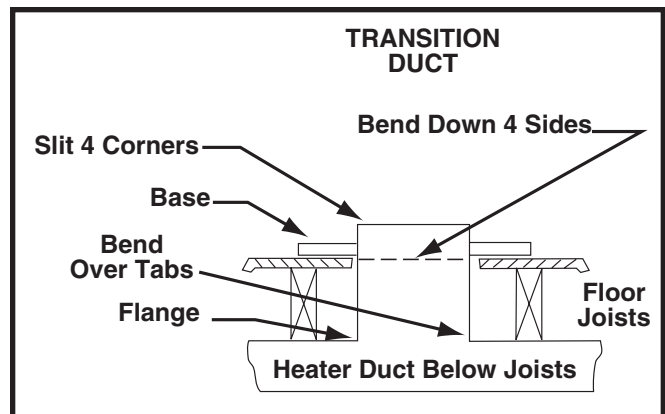

Figure 5. Transition Duct
5. Drop transition duct (Figure 5) upside down through the floor opening and center the top of the feeder duct in 14-1/8" x 14-1/8" floor opening. Using the feeder duct as a guide, mark and cut a 12" x 12" opening in the supply duct.
5. Set the universal base in place. Drop transition duct (Figure 5) upside down through the floor opening and center the top of the feeder duct in 14-1/8” x 14-1/8” floor opening.